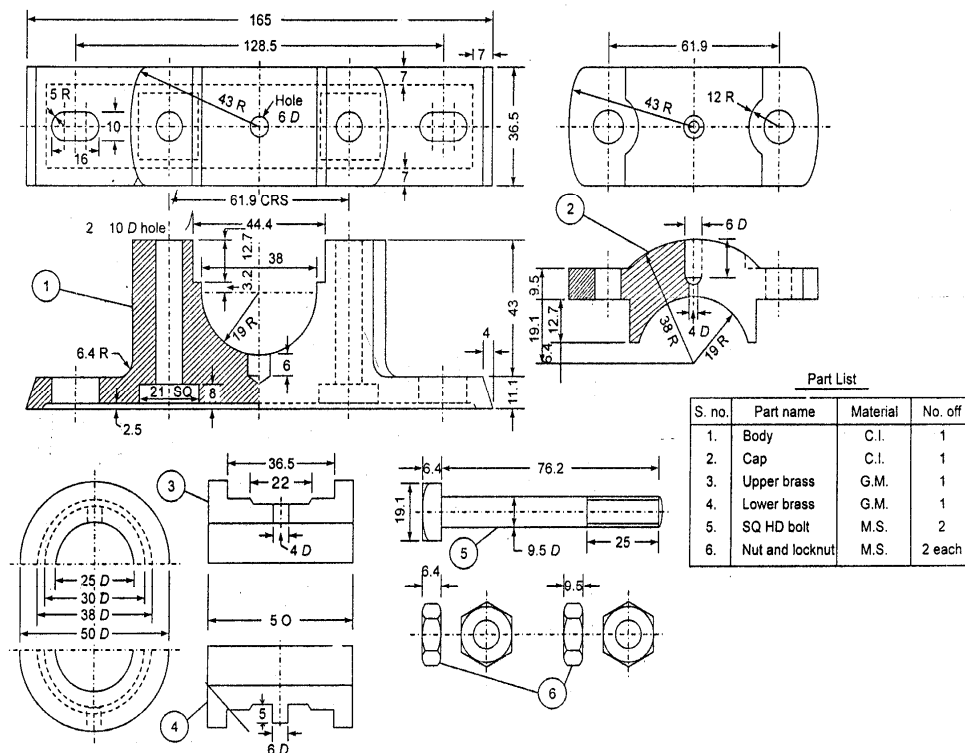

Fig. 1 Details of plummer block
- Figure 1 gives the part drawings of Plummer block. Assemble all the parts and draw the following assembled views. (48M)